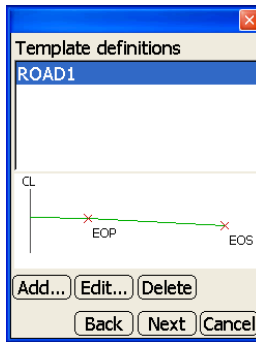

Figure 2-23. Template Definitions Dialog Box
14. On the *Template definitions* dialog box, press **Next** to continue (Figure 2-23).